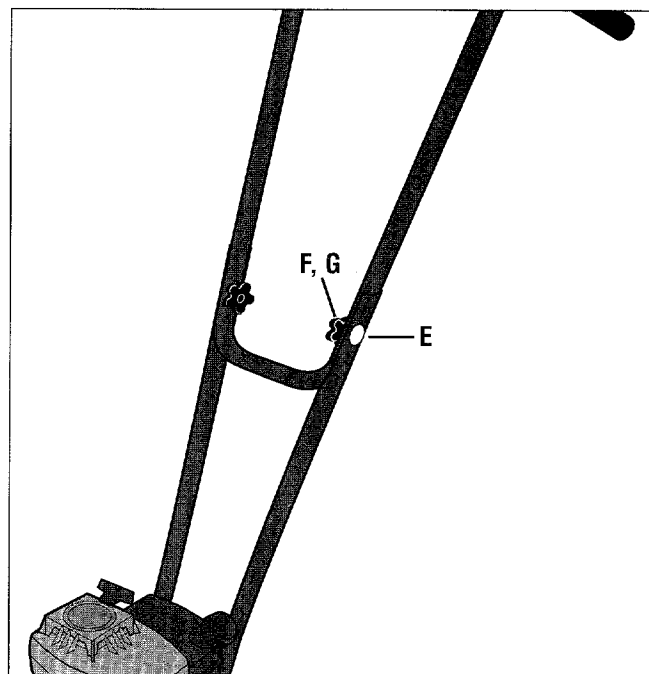

Figure 5: Attach upper handlebar to lower handlebars (viewed from front of engine).
8. Align the hole in the left upper handlebar with one of the two rectangular holes in the left lower handlebar (the rectangular holes allow the handlebar to be adjusted higher or lower). From the outside, insert a 5/16"-18 x 2" long curved head carriage bolt (E, Figure 5) through the holes.
9. Put a 5/16" flat washer (F) on the bolt and loosely thread on a handlebar knob (G). See Figure 5.